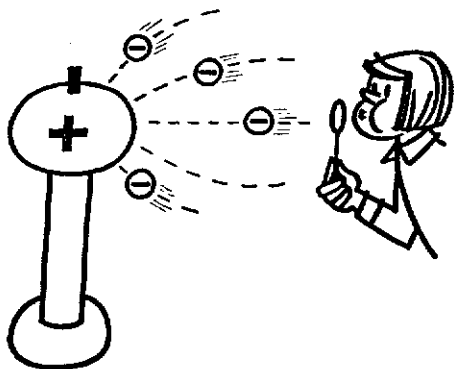

Fig. 57
When charged soap bubbles were blown towards the sphere of a Van de Graaff generator they tended to move along the dotted lines shown in Fig. 57. Such lines are sometimes referred to as *lines of electric force*. They indicate the direction in which the force acts on a charged particle at any point. Can you draw a diagram showing the lines of gravitational force round the Earth? (12)